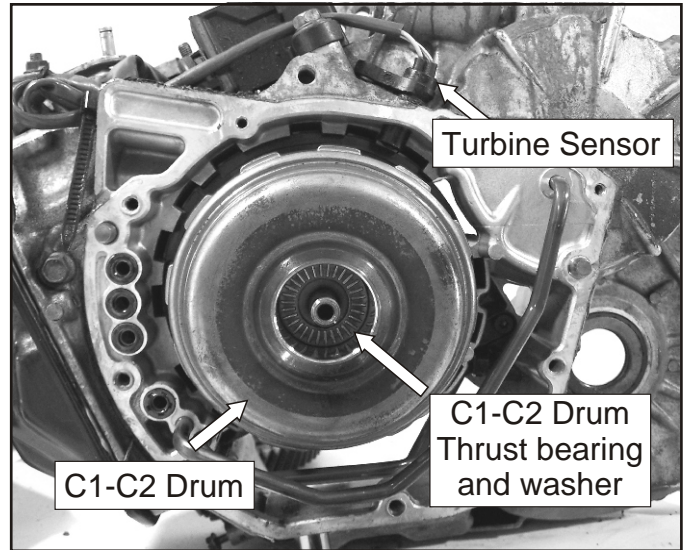
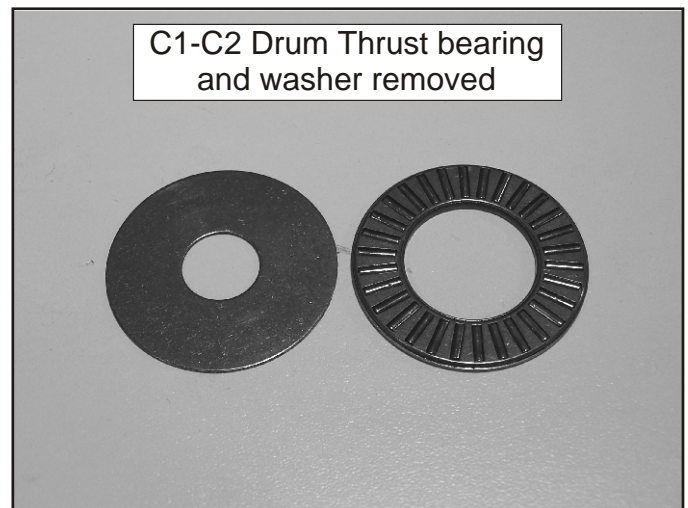

Figure 71
Figure 72
21. Remove the 27 torx headed turbine sensor bolt and sensor. **Note: the bolt length is 13mm.** Remove the C1-C2 drum thrust bearing and washer. Remove the C1-C2 drum as shown in Figure 71. Refer to Figure 72 to see a closeup of the C1-C2 washer and bearing.